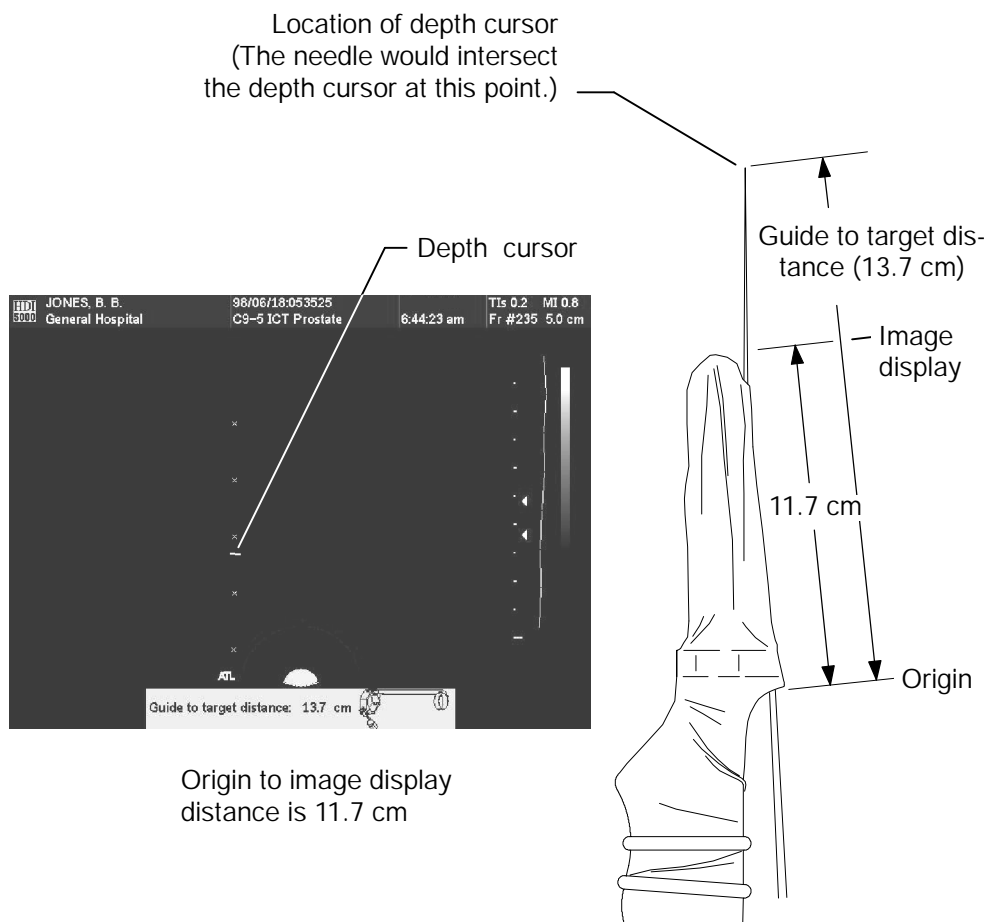

Figure 5-4. Biopsy Guide Depth and Distance Relationships Example: C9-5 Scanhead and Biopsy Guide
11. Insert the needle into the biopsy guide until the mark on the needle aligns with the origin on the biopsy guide (Figure 5-4). (The origin is the point at which the needle enters the biopsy guide or needle insert.)